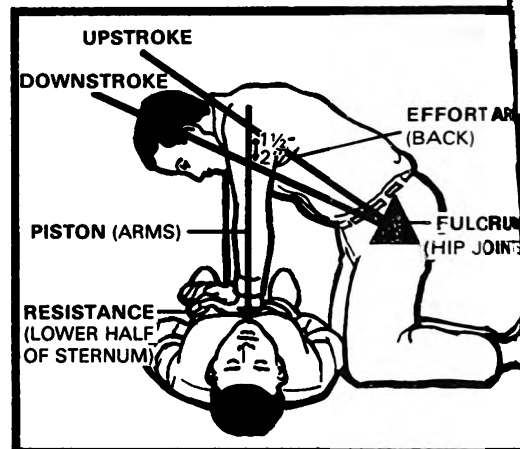

Figure 10.
(4) When the upper part of the body is brought forward, the arms will become vertical and the elbows will be kept locked as the weight of the upper body is applied to the chest. The chest of the victim will be compressed $1\frac{1}{2}$ to 2 inches (figure 10).